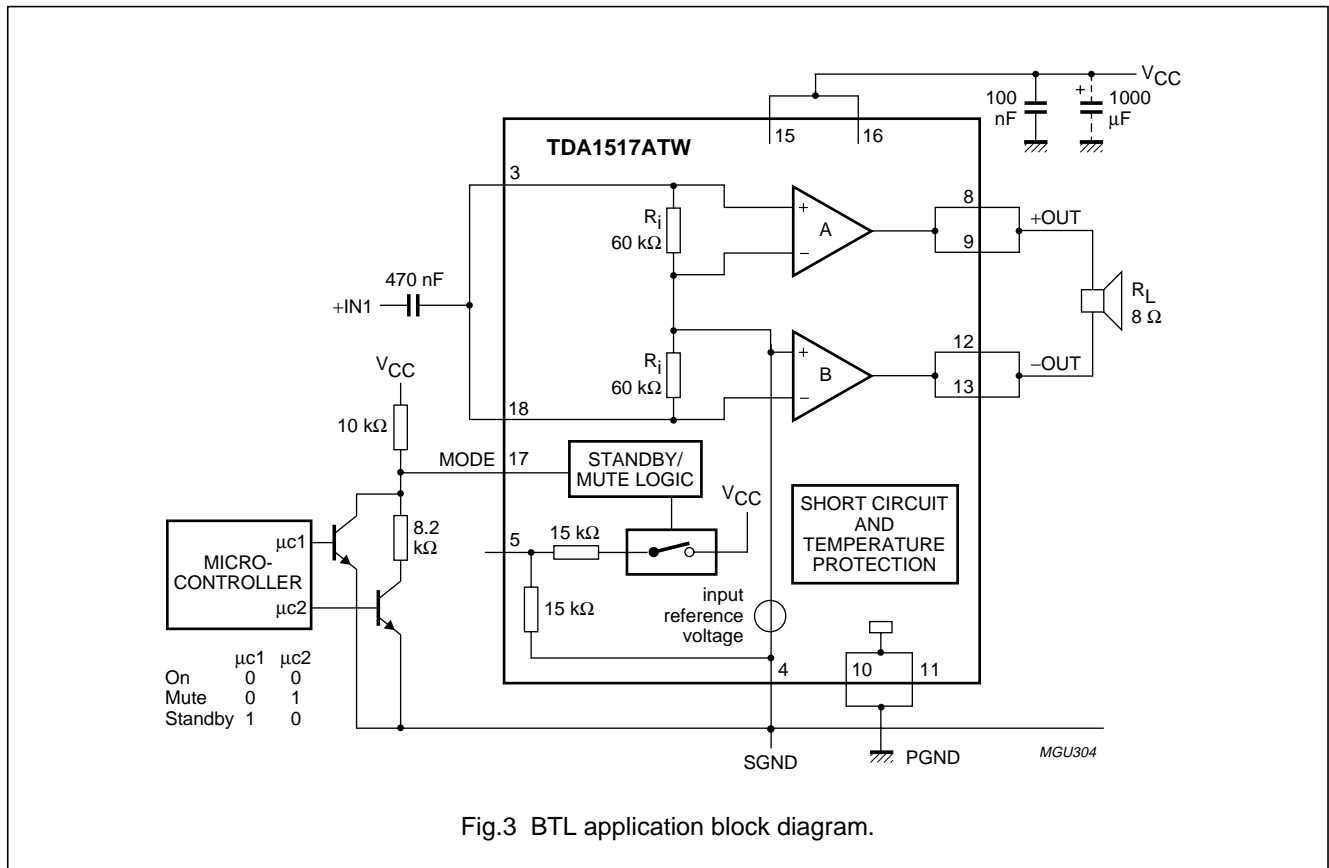

Fig.3 BTL application block diagram.
**DC CHARACTERISTICS** $V_P = 12$  V;  $T_{amb} = 25$  °C; measured in Fig.3; unless otherwise specified.
8.  $R_L = 8 \Omega$ , measured in Fig.3.
The BTL application block diagram is shown in Fig.3. The PCB layout [which accommodates both the mono (BTL) and stereo (single-ended) application] is shown in Fig.6.